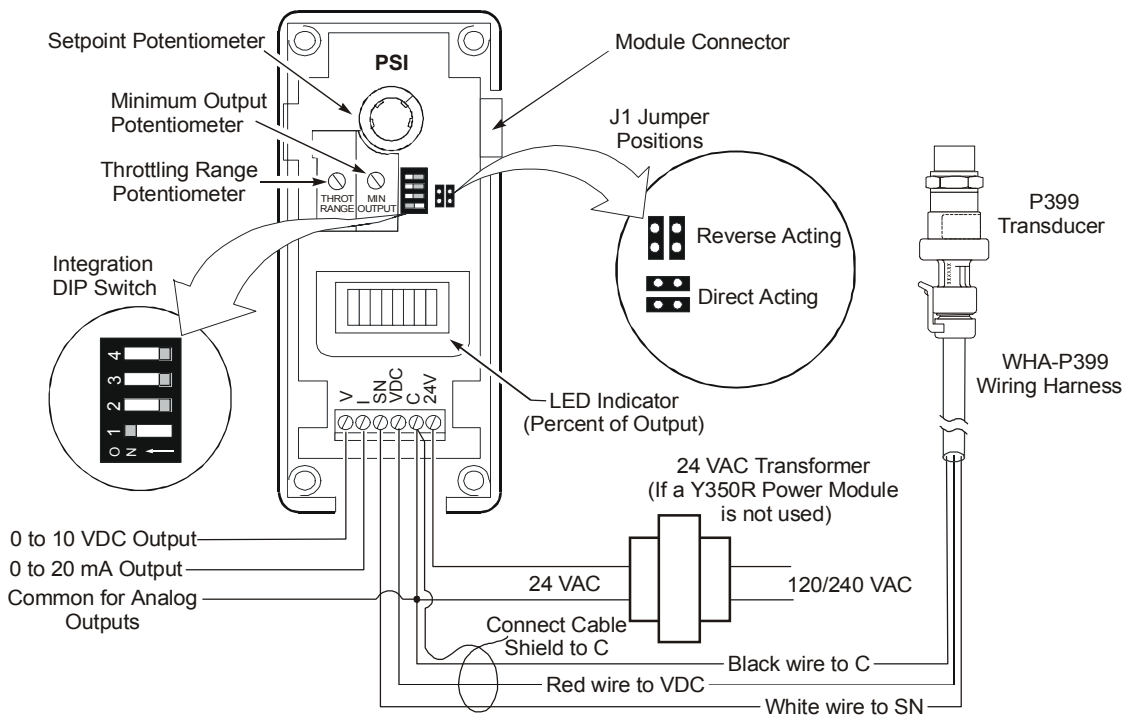

Figure 2: Interior View and Typical Wiring of P352PN Control
The control has three different integration constants to choose from, which allow you to setup the control for the optimum recovery rate for your application. Use the Integration DIP switch shown in Figures 2 and 5, and the guidelines below to set the control for proportional-only or set to the integration constant rate for proportional plus integral control.
Select the desired mode of operation by positioning the two jumpers on the **J1** jumper block. Position the jumpers vertically for Reverse Acting, or horizontally for Direct Acting. (See Figure 2.)
The P352PN controls use a P399 Pressure Transducer to generate the 0.5 to 4.5 VDC input signal. The transducer is wired to the control at the terminal block at the bottom of the circuit board. Refer to Table 2 and Figure 2 for proper wiring configuration. Connect the cable shield to C on the terminal block.
2. Set the RA/DA jumper blocks to the desired mode. Position the jumper blocks vertically for RA or horizontally for DA mode. See *Reverse or Direct Acting Mode* section and Figure 2.
3. Adjust the throttling range potentiometer to desired setting. Rotate clockwise to increase the throttling range. Refer to *Throttling Range (Proportional Band)* section and Figure 2.
4. If minimum output is required, set the minimum output potentiometer to the desired position. The 10-segment LED bar graph or a voltmeter can be used to read the minimum output. See *Minimum Output Adjustment* section and Figure 2.